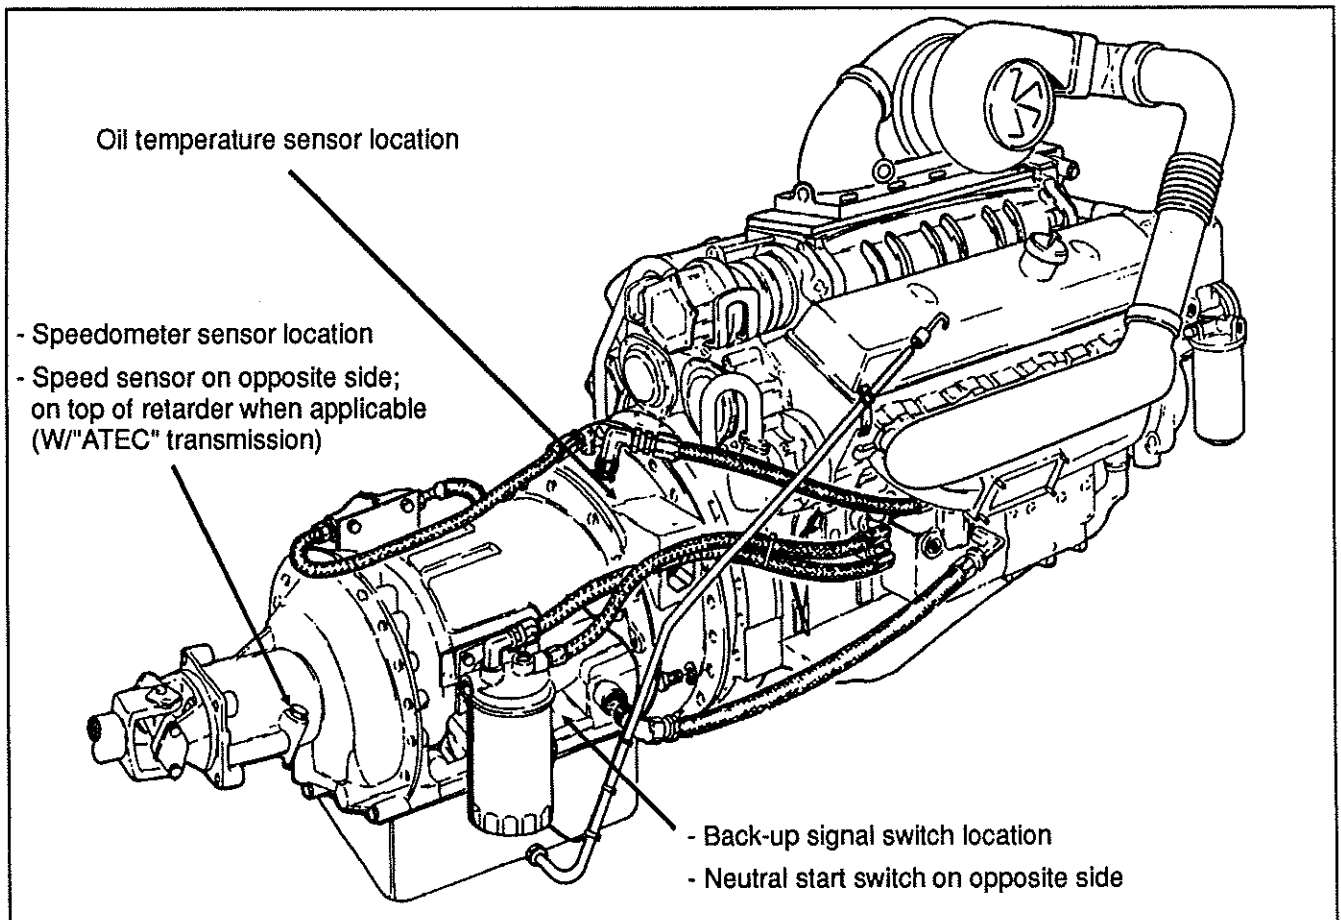

Fig. 76 - Automatic transmission
b) Connect speedometer sensor, back-up signal switch and neutral start switch (refer to fig. 76).
b) Connect speed sensor (refer to fig. 76).
15. Connect oil temperature sensor (refer to fig. 76).